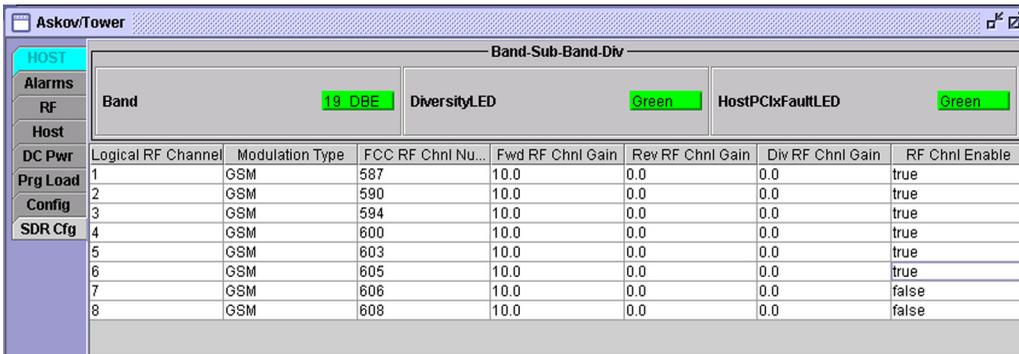

Figure 36. Host SDR Cfg Window
Using the host **SDR Config** window, shown in Figure 36, you can define a logical RF channel and enter gain settings for each path within the channel. A logical RF channel is a multiplex of up to eight RF voice channels. A logical RF channel consists of a forward path, a primary reverse path, and a secondary reverse path, if supported by the remote unit. The gain setting is simply a number that affects the amount of gain to applied to the signal within the specified path. A negative value results in attenuation. Each gain setting increment corresponds approximately to 1 dBm of adjustment.
2. Click on the host **SDR Cfg** tab to display the window shown in Figure 36. (This example shows typical a data display for logical RF channels that are already defined.)